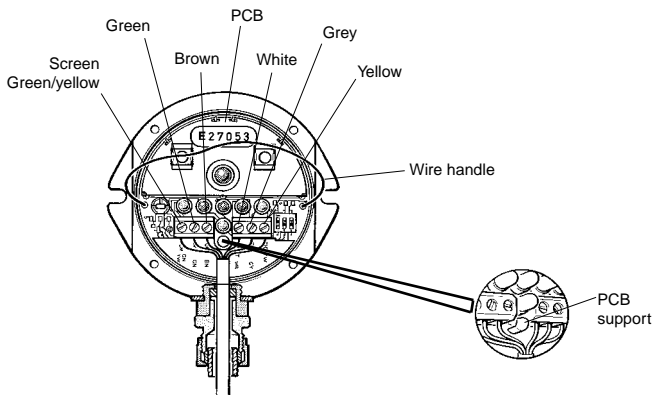

Figure 2 – Replacing the OMM printed circuit board
To replace the defective PCB within the OMM body, carry out the following (see Figures 2 and 3):
4. Referring to Figure 2, carefully inspect the PCB supports for signs of damage; if damage is evident then return the complete OMM to Renishaw for repair.
7. Carefully assemble the new PCB to the OMM body and, referring to Figure 2, connect the wires to the terminal block of the new PCB. Torque-tighten each terminal block screw to between 0.25 Nm and 0.4 Nm (0.18 lbf.in. and 0.29 lbf.in.).